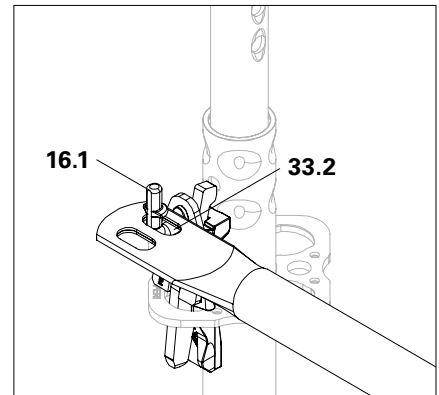

Fig. A5.08b
2. Align the slot (**33.2**) with the guardrail hook (**16.1**) and insert. (Fig. A5.08b)